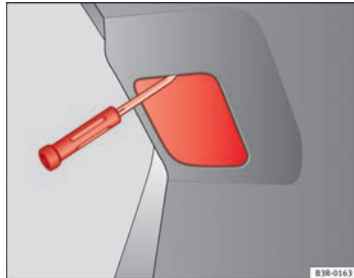

Fig. 218 Remove the cover from the rear lid
- Insert a screwdriver into the opening in the cover from the top ⇒ Fig. 218 and use it as a lever to detach the cover.